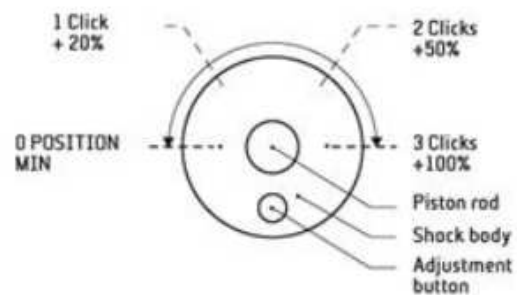

Figure 4: Rebound adjustment (approximate force). Listen for the clearly distinguishable clicks, each of which marks an adjustment position.
- 3) The adjusting device has been provided with a number of clearly distinguishable stops (clicks), each of which marks an adjustment position (zero + 3 clicks = 4 positions) (figure 4).